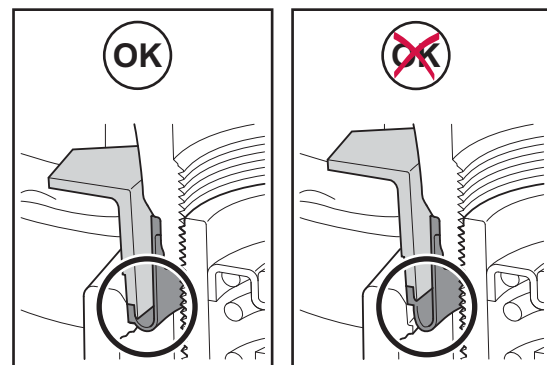

Figure 47. Adjustment screw bellows seated OK/NOK
14. Remove the special tool. Check that the bellows is correctly seated all around within the calliper, see figure 47.